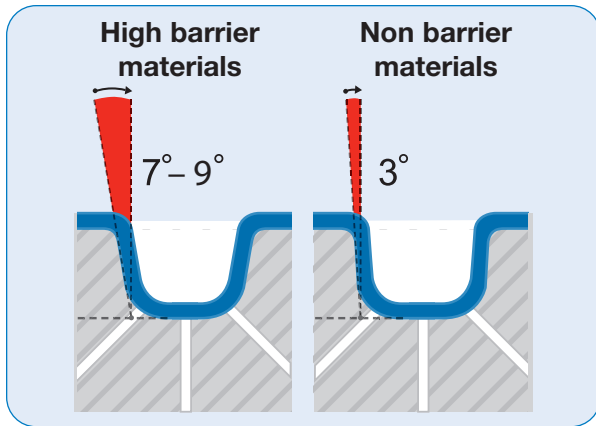

Figure 2
- Draft angle4 of 7° to 9° (Figure 2). These higher draft angles will produce less thinning of the forming material than the lower draft angles (3° to 5°) typically used with non-barrier materials. Note that draft angle should be tailored to the size and shape of the cavity.